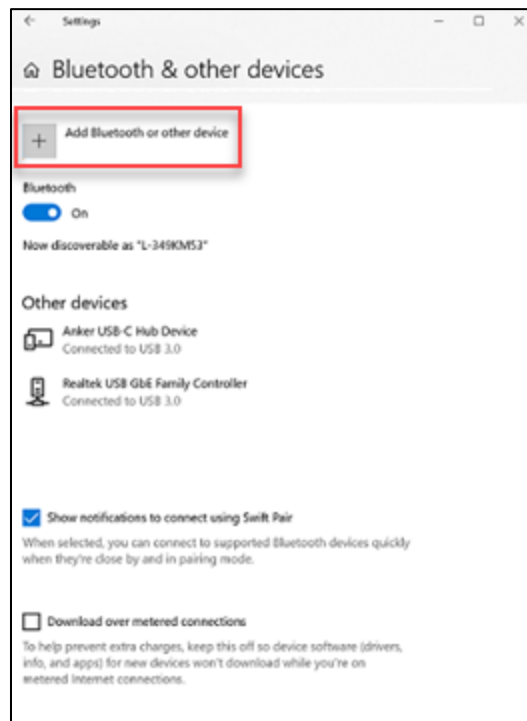

Figure 6: BT & other devices
6. Select **Add Bluetooth or other device** in the Bluetooth & other devices window (see **Figure 6**).